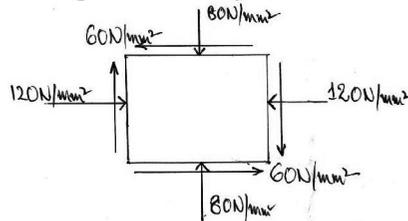

Fig. Q3 (b)
- 2 a. Derive the relationship between modulus of elasticity (E), modulus of rigidity (C) and bulk modulus (K). (08 Marks)
- b. The state of stress in a two dimensionally stressed body is as shown in Fig. Q3 (b). Determine the principal planes, principal stresses, maximum shear stress and their planes. Schematically represent these planes on x-y coordinates: (08 Marks)